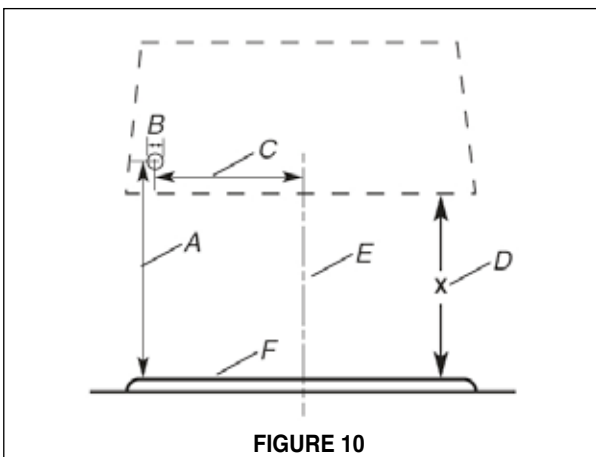

FIGURE 10
3. Determine and mark the location where the hole will be drilled for the power supply cable to be run through the wall. See **FIGURE 10** for locating the power supply. Take the distance from the cooktop (F) and hood install height (D), and add 3" (A). Mark and drill a hole (B) = 1 1/4" diameter on the wall on the left side of the hood (C) 7 1/4" for 30" hoods, and 8 1/4" for 36" hoods from the center line (E).
NOTE: The wiring box may be located on the right or left side in the hood. Use the mirror image of FIGURE 10 if located on the opposite side.